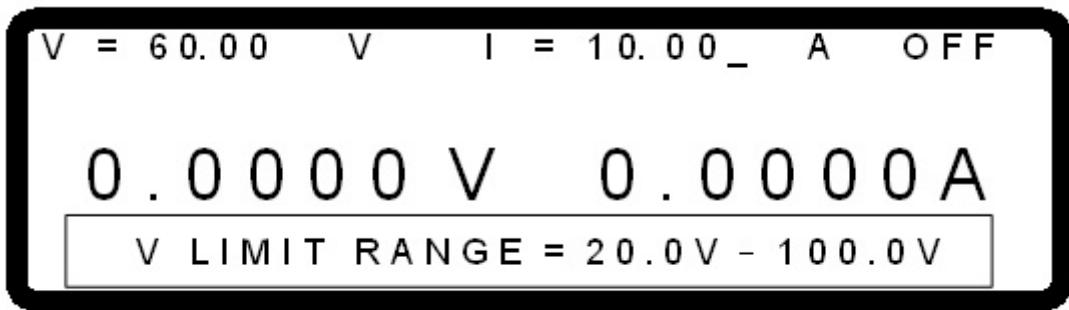

Figure 3-17
2. Use the numeric keys (**0** - **9**) or the “Rotary” () knob to set the value. Use this option to narrow down the range by setting the MIN and MAX values. When “**VOLT**” is pressed to set the output voltage, the DC Power Supply sets the voltage within the range of [MIN value ≤ user-defined value ≤ MAX value]. For example, if the V LIMIT is set to MAX=100V, MIN=20V and the setting exceeds the output voltage set by the user (e.g. 110V), the BUZZER will beep one time (if the BUZZER is set to ON) and the main screen will automatically prompt a warning message as shown in Figure 3-17 below.